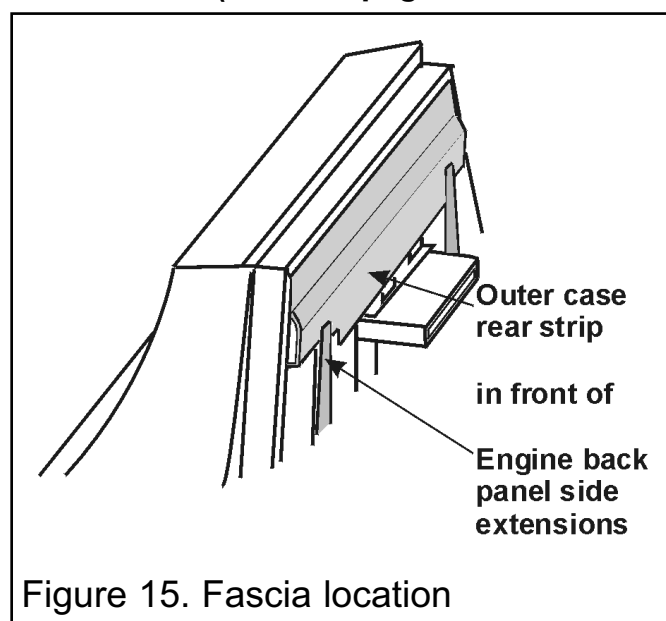

Figure 15. Fascia location
3. Refit the fascia. The fascia top rear strip should locate in front of, but touching, the side extensions of the engine back panel (See figure 15).
5. Replace in the reverse order. Make sure that the fascia top rear strip locates in front of, but touching, the side extensions of the engine back panel. See figure 15 in the 'Final assembly and review' section.